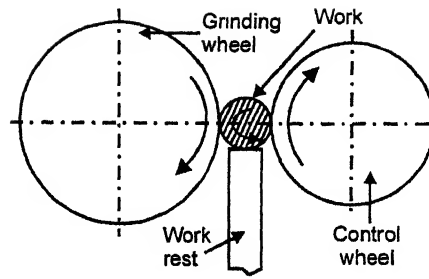

Fig. 11.3. Centreless grinding.
**Centreless grinding.** Refer to Fig. 11.3.